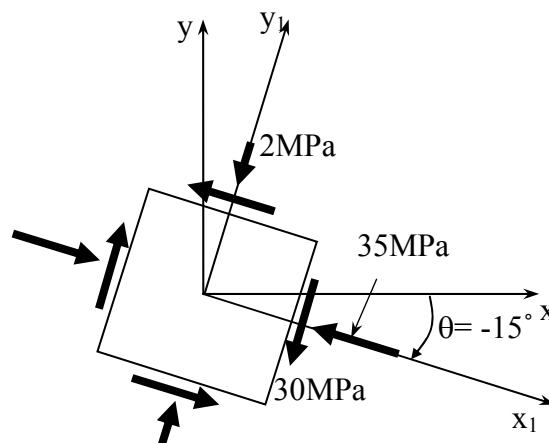

Figure 6
6. (a) Figure 6 shows a stress element oriented with respect to coordinate system  $x_1$ - $y_1$ . Draw Mohr's circle for the state of stress represented by Figure 6. Indicate the stresses on the Mohr's circle. Using the Mohr's circle drawn,